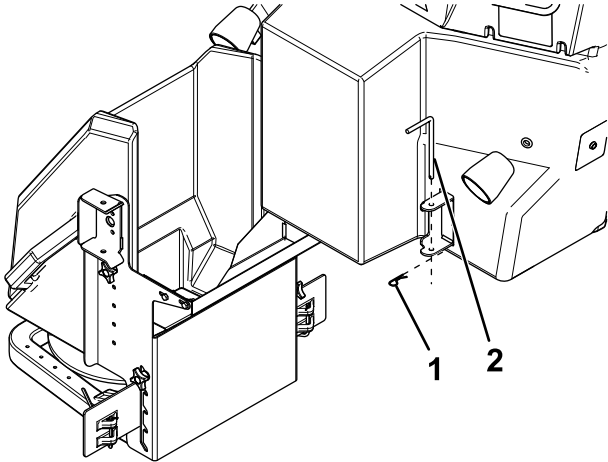

Figure 56
4. Remove the right latch and cotter pin from the spreader spinner assembly (Figure 56).
5. Swing the spreader spinner assembly free from the hopper opening (Figure 56).